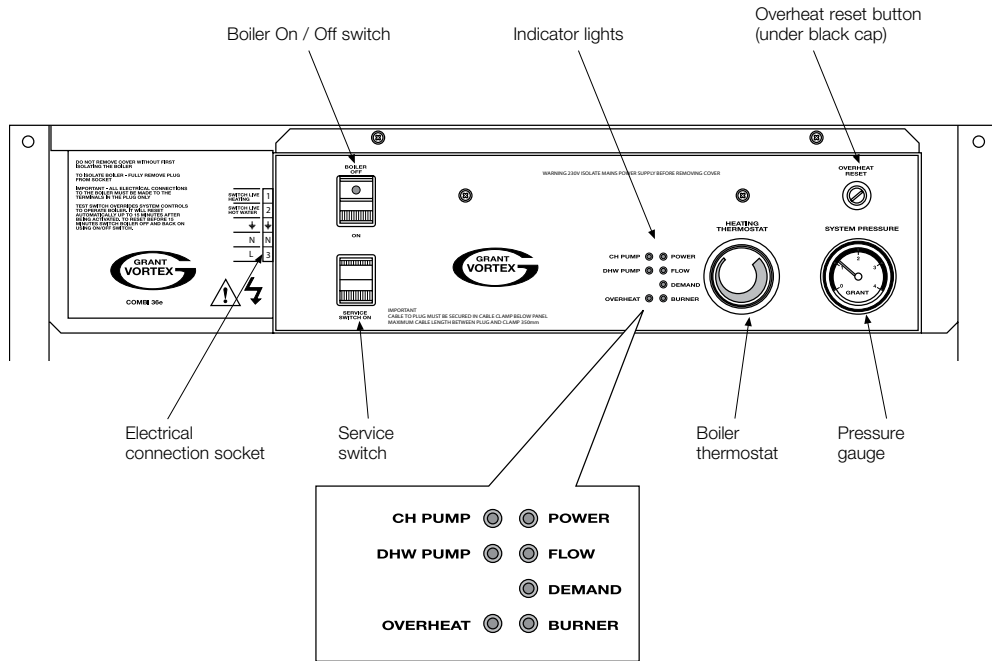
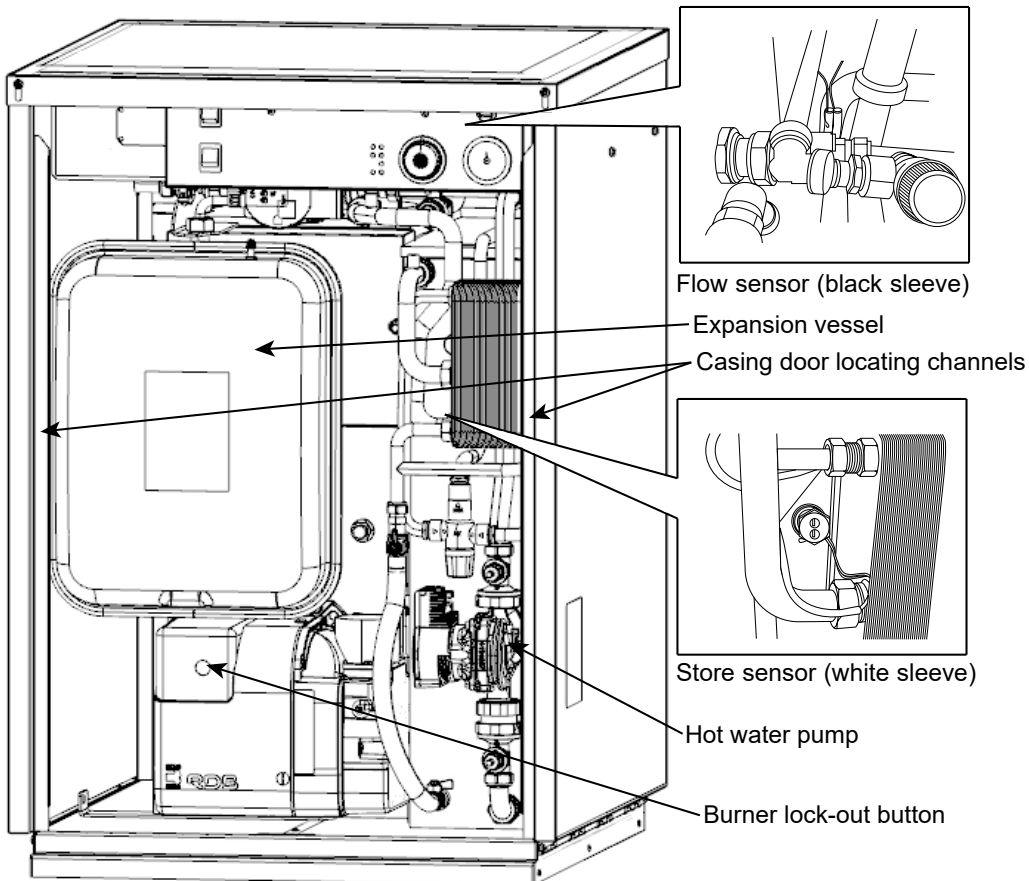

Figure 10-1: Vortex Pro External Combi boiler control panel
Figure 10-2: Position of boiler components - Vortex Pro Outdoor Combi
The controls are shown in Figure 10-1 and other components are shown in Figure 10-2.
3. Remove the four screws retaining the top casing panel and remove the top casing panel, then check that the high limit thermostat bulb and boiler thermostat bulb are correctly located in their respective pockets. Refer to Figure 5-1. Ensure the store sensor is correctly located in its pocket. Refer to Figure 10-2. Check condition of all thermostat capillaries. Ensure they are not damaged, broken, kinked or crushed.